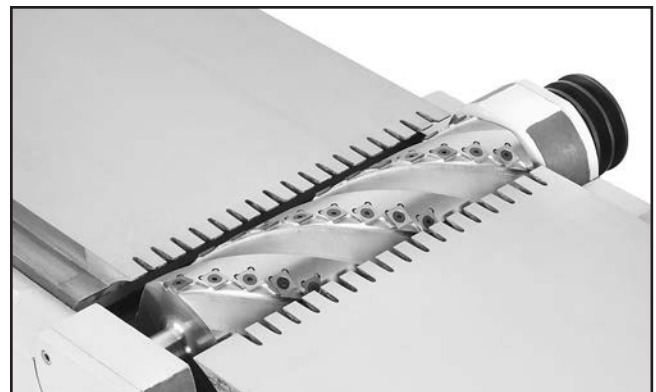

Figure 19. Cutterhead installed.
- Secure the cutterhead assembly bearing blocks to the casting with the hex bolts and lock washers removed in **Step 17** in the **Assembly** section on **Page 4**, as shown in **Figure 19**.